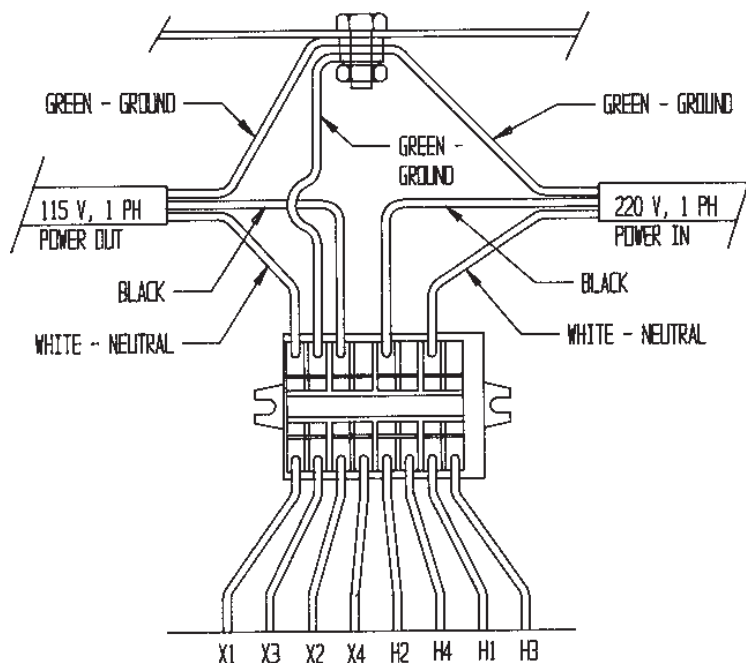

FIG. 8
The wiring diagram is shown in FIG. 8.
3. Wipe and re-oil with spray lubricant, the grinding wheel diameter adjusting lead screw every three months. Wipe off all excess lubricant. See FIG. 8.
4. Check the gib adjustment on the grinding wheel diameter adjustment every 3 months. See FIG.8.